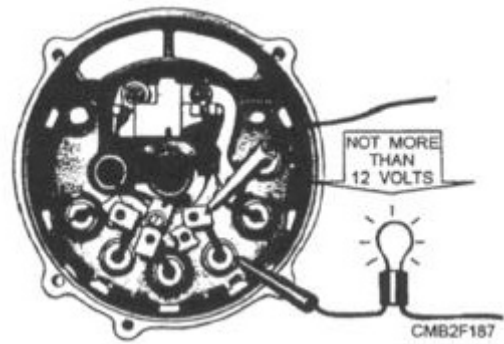

Figure 2-34.—Testing diodes with a test lamp.
- Connect one of the test leads to the diode lead and the other test lead as shown in figure 2-34. Then reverse the lead connections. If the lamp lights in both checks, the diode is defective. Or, if the lamp fails to light in either direction, the